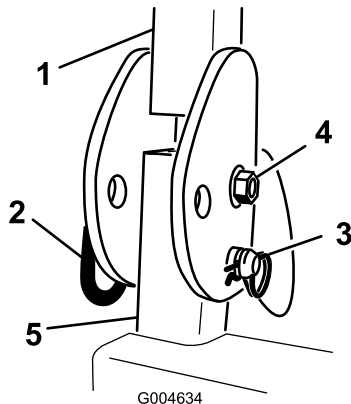

Figure 4
1. Remove the hairpin cotter pins and remove the two pins from the roll bar (Figure 4).
2. Raise the roll bar to the upright position and install the two pins and secure them with the hairpin cotter pins (Figure 4).